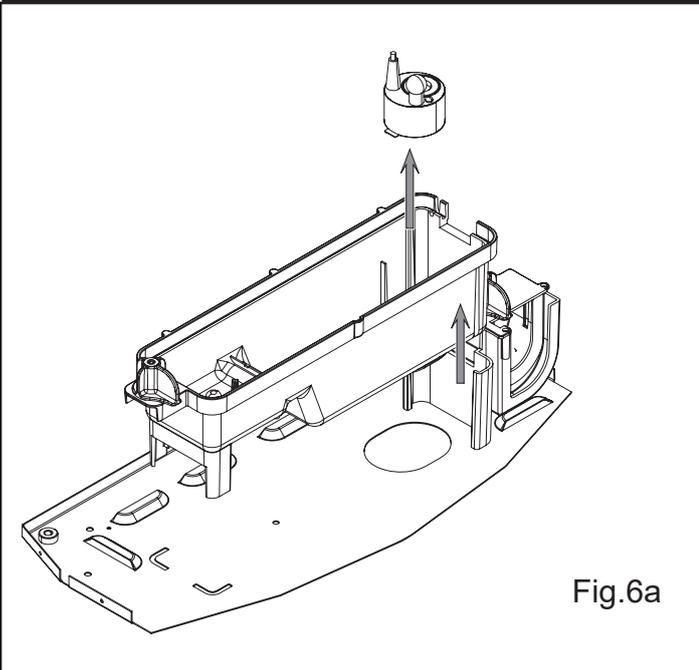

Fig.6a
5. Release the right sump locking tabs by turning 90°, this allows the sump to be lifted completely from its location. (See Fig.6a)